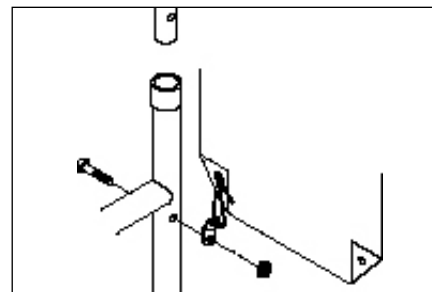

Figure 6
E. BACKREST HEIGHT ADJUSTMENT (Fig. 6)